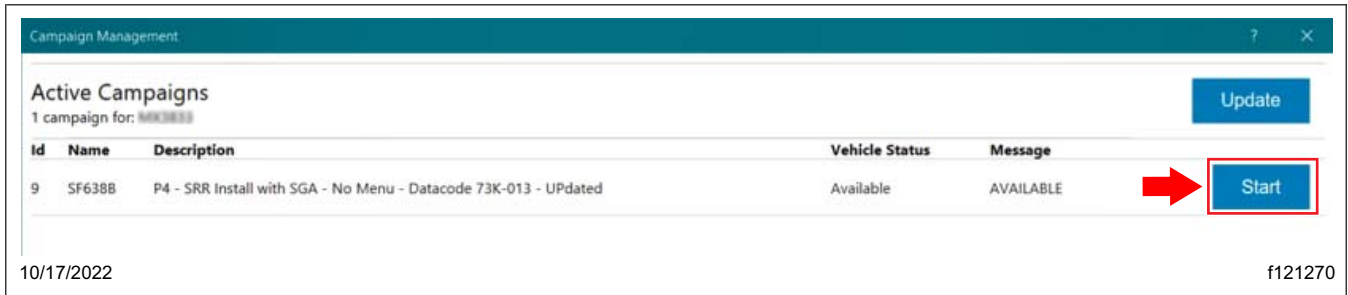

Fig. 10, Selecting Start
7.3 Verify the particulars under the 'Name' and 'Description' columns are displayed correctly. Then select 'Start.' See Fig. 10.